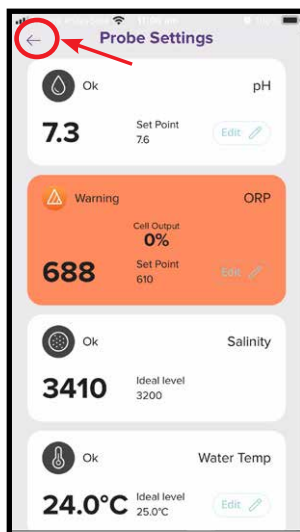

Figure 8.13
- Now simply press the back arrow button at the top left corner to return to the home screen of the Henden Smart Chlorinator App (refer figure 8.13).